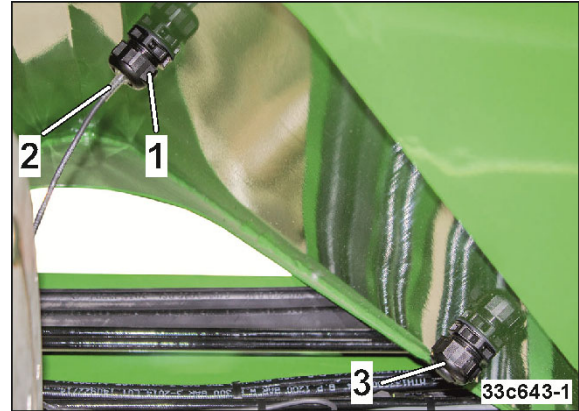

Fig. 140
2. Release the nut (Fig. 140/1).
3. Detach the fill level sensor (Fig. 140/2) and insert it in the intended holder.
5. Tighten up the nut (Fig. 140/1).
The close the opening, insert the dummy (Fig. 140/3) into the holder and clamp it firmly.